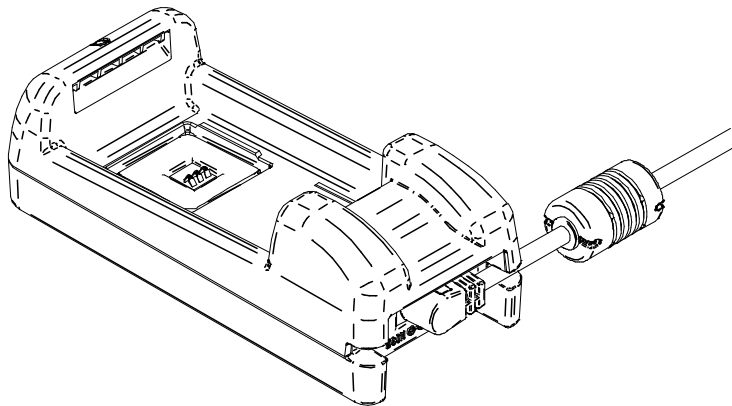

Figure 17-3 Fixing Cable
- (1) Connect the AC cable to the AC adapter.
- (2) Plug the DC plug of AC adapter to the power connector of the battery charger. Fix the cable of the AC adapter in the groove of the battery charger as shown in Figure 17-3. (The cable can be fixed on either the left or right groove.)
- (3) Plug the AC plug of the AC cable to an outlet. The LED of the battery charger changes from lighting off to green lighting.